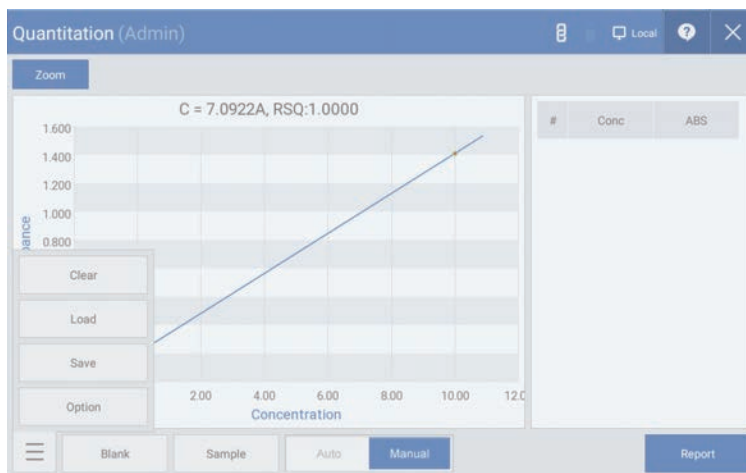

Fig. 3.11
1. Select the standard curve to use from [Fig. 3.11]. \* Refer to “How to Create Standard Curve” if there is no standard curve.
2. Load the blank sample and click “Blank” shown in [Fig. 3.11] to measure the zero point.
4. Load the sample and click the “Sample” button shown in [Fig. 3.11] to begin measurement.